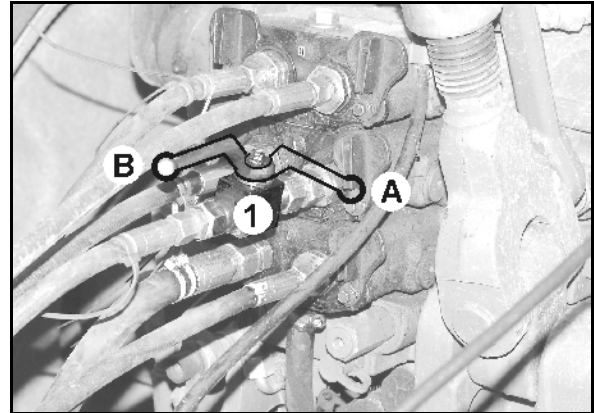

Fig. 37
4. Close the ball valve (Fig. 37/1) (position A).